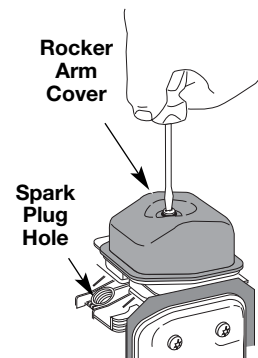

Fig. 53
5. Clean dirt from around the rocker arm cover. Remove the screw holding the rocker arm cover with a large flat blade screwdriver or Torx T-25 bit (Fig. 53). Remove the rocker arm cover and gasket.